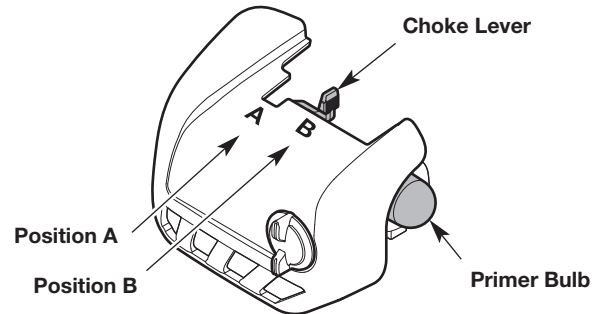

Fig. 11
1. Slowly press and release the primer bulb **10 times** (Fig. 11).
2. Move the choke lever to **Position A** (Fig. 11).
6. Move the choke lever to **Position B** (Fig. 11).